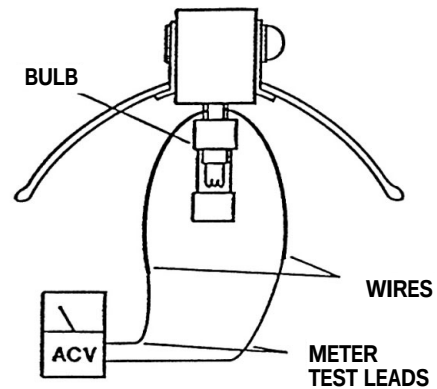

Figure 2-5.
3. Turn main power "ON" and set the Dimmer Control to maximum intensity for the test. Output voltage (at the bulb) should be 20V. See figure 2-5.